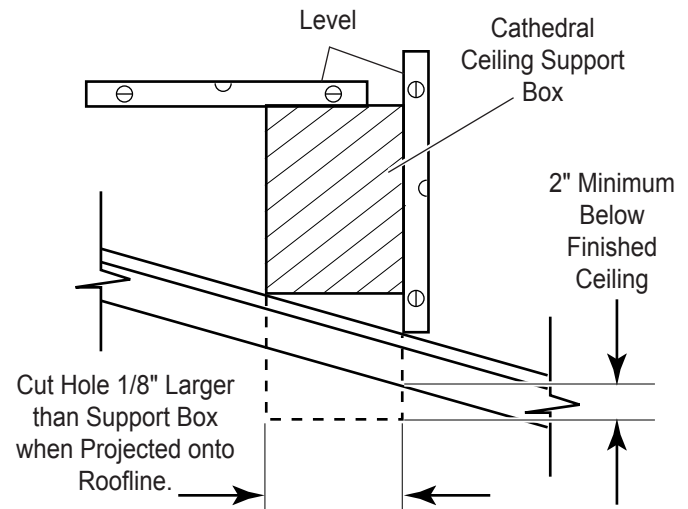

Figure 30 - Cathedral Ceiling Support Box Installation
2. Cut the hole $\frac{1}{8}$ " larger than the support box outline. See Figure 30.
3. Lower the support box through the hole in the roof until the bottom of the box extends at least 2" (50 mm) below ceiling. See Figure 30. Align the support box vertically and horizontally using a level. Temporarily tack the support box in place through the inside walls and into the roof sheathing.